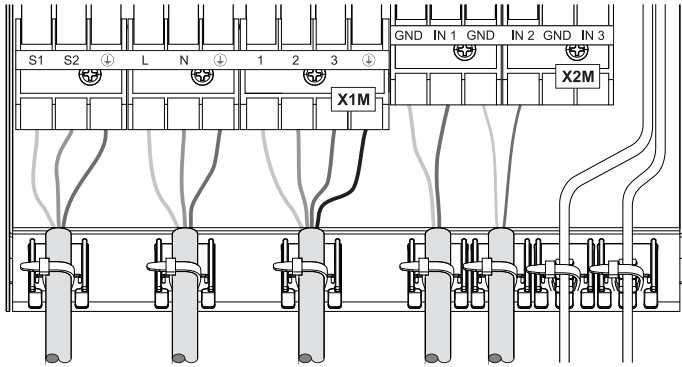

Fig. 3-8 Strain relief by cable ties
- For all cables connected to DAIKIN EKHP, effective strain relief must be ensured in the switch box by means of cable ties (see fig. 3-8 to 3-10).